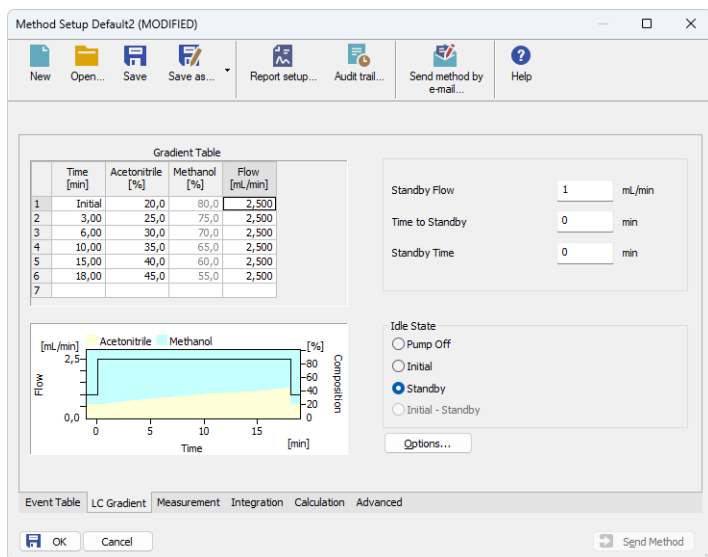

Fig. 5: Method Setup - LC Gradient
- In the *System Configuration* dialog press the *Add* button (① on Fig 5) to invoke the *Available Control Modules* dialog.
- Select the **Shimadzu LC-10/20 Pump** in the **LC** section and press the *Add* (② on Fig 5) button.